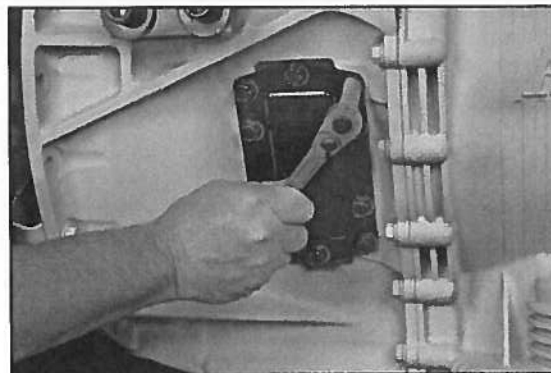

Fig. 10
2. Remove the PTO aperture plate with a 15mm socket (**Fig. 10**).